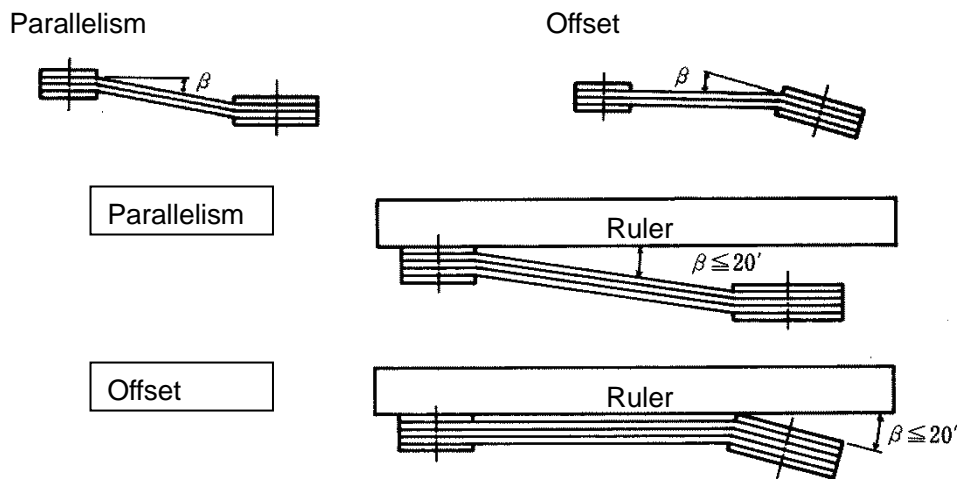

Fig.1 Parallelism and Offset
- (1) Remove belt cover.
- (2) Loose the old belt as loosening the nuts fixing the motor, remove the belt.
- (3) Install the new belt. If multiple belts are used, it is recommended to use "matched set" of which the circumference length is the same.
- (4) Adjust the parallelism and offset as putting a ruler on motor pulley and blower pulley, at the same time, adjust deflection as you give tension at the center of the span to the belt. (Fig.1 and 2)